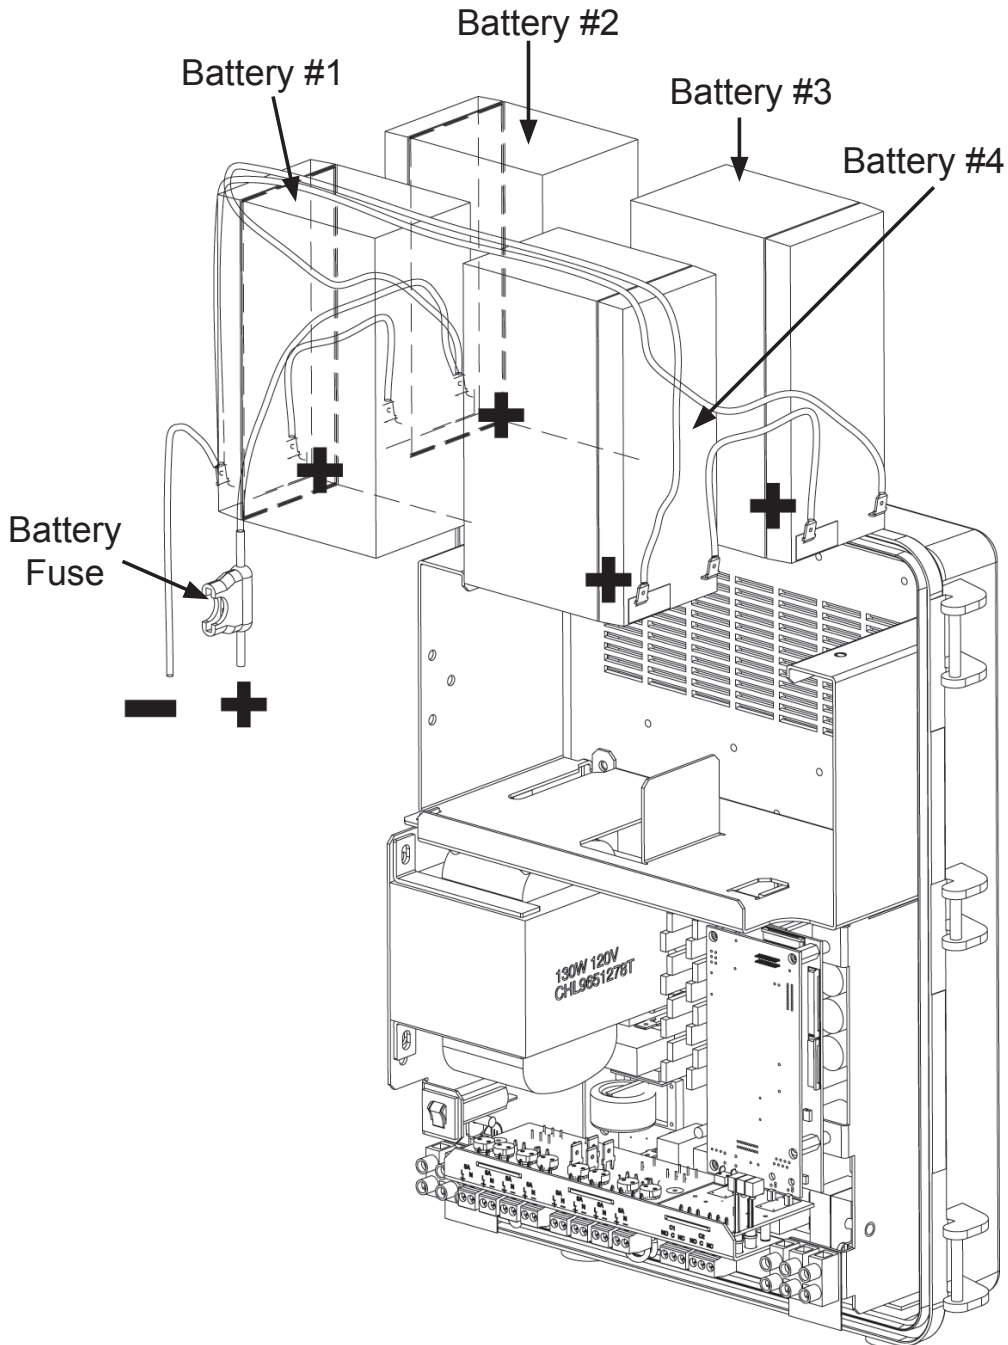
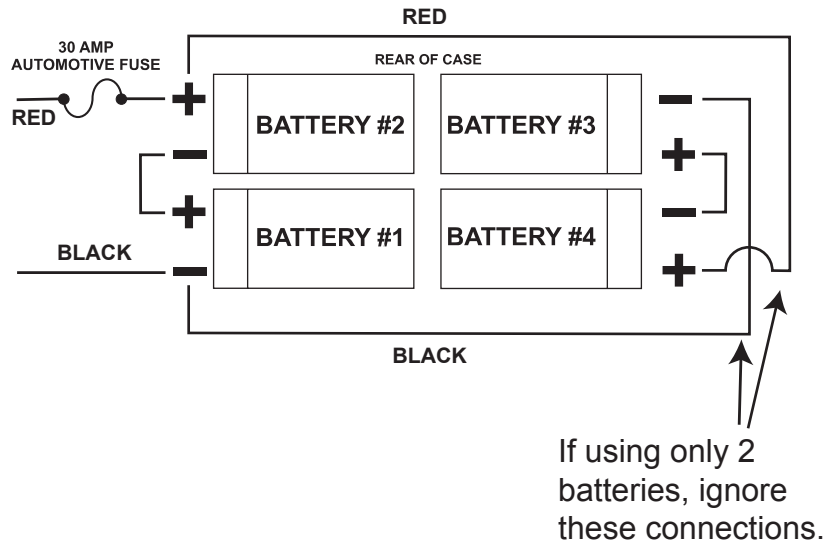

Figure 8 — Battery Locations
Figure 9 — Battery wiring diagram
1. Install the 4 batteries and wire them up as shown in Figure 8 and Figure 9.